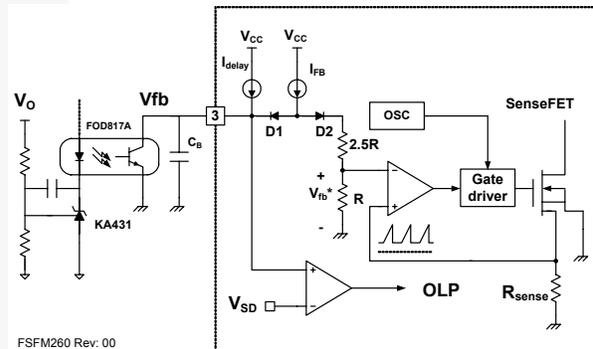

Figure 17. Pulse Width Modulation (PWM) Circuit
2. Feedback Control: FSFM260/261/300 employs current-mode control, as shown in Figure 17. An optocoupler (such as the FOD817A) and shunt regulator (such as the KA431) are typically used to implement the feedback network. Comparing the feedback voltage with the voltage across the R_{SENSE} resistor makes it possible to control the switching duty cycle. When the reference pin voltage of the shunt regulator exceeds the internal reference voltage of 2.5V, the opto coupler LED current increases, pulling down the feedback voltage and reducing the duty cycle. This typically occurs when the input voltage is increased or the output load is decreased.
2.1 Pulse-by-Pulse Current Limit: Because current-mode control is employed, the peak current through the SenseFET is determined by the inverting input of the PWM comparator (V_{FB}^*), as shown in Figure 17. When the current through the opto-transistor is zero and the current limit pin (#4) is left floating, the feedback current source (I_{FB}) of 0.9mA flows only through the internal resistor ($R+2.5R=2.8k$). In this case, the cathode voltage of diode D2 and the peak drain current have maximum